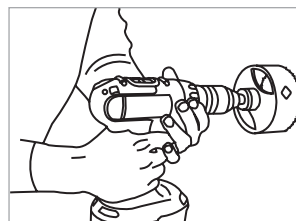

Fig. 1
2. Drill 4" (102 mm) diameter hole using a circular hole saw (see fig.1)